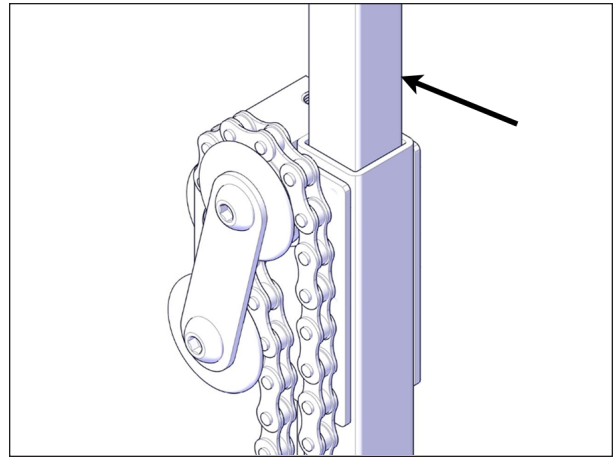

FIGURE 111: SLIDING PARTS TO GREASE
- Spray grease on all the sliding parts and mechanical components of all jacks, see Figure 111.